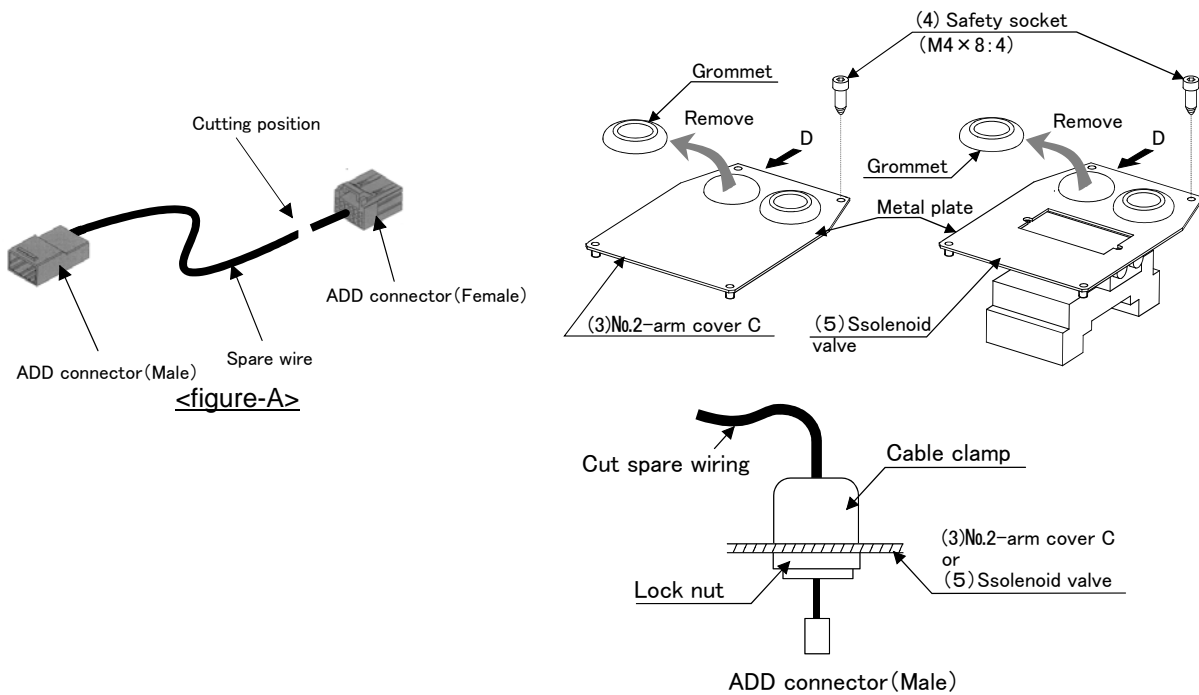

Fig.2-9 : Installation and connection of spare wiring
- 4) The connector is attached to spare wiring to both ends. Cut spare wiring near the connector (from the connector end to the about 10-20mm Refer to <figure-A> in Fig. 2-9), and let spare wiring pass to the cable clamp (customer preparation).
- 5) Remove one either among the grommets of No.2 arm cover C(3) or solenoid valve (5). After removing the grommet, the seal material which remained in the hole area of the sheet metal removes.